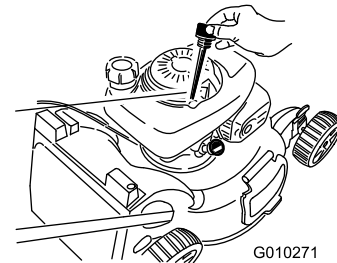

Figure 44
3. Remove the dipstick by rotating the cap counterclockwise and pulling it out (Figure 44).